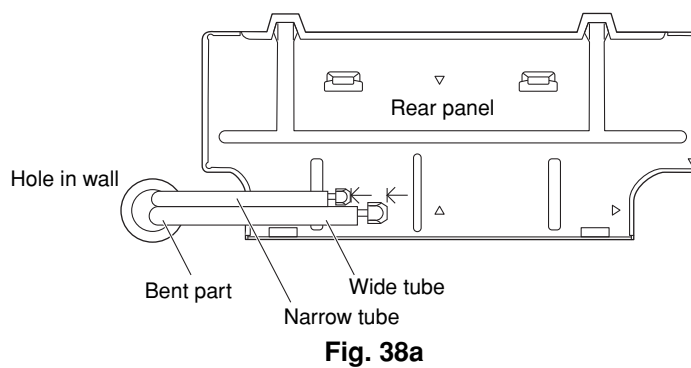

Fig. 38a
- (1) Lead the tubing and drain hose through the wall, allowing sufficient length for connection. Then bend the tubing using a tube bender to make the attachment. (Fig. 38a)
- (2) Switch the drain hose and drain cap.